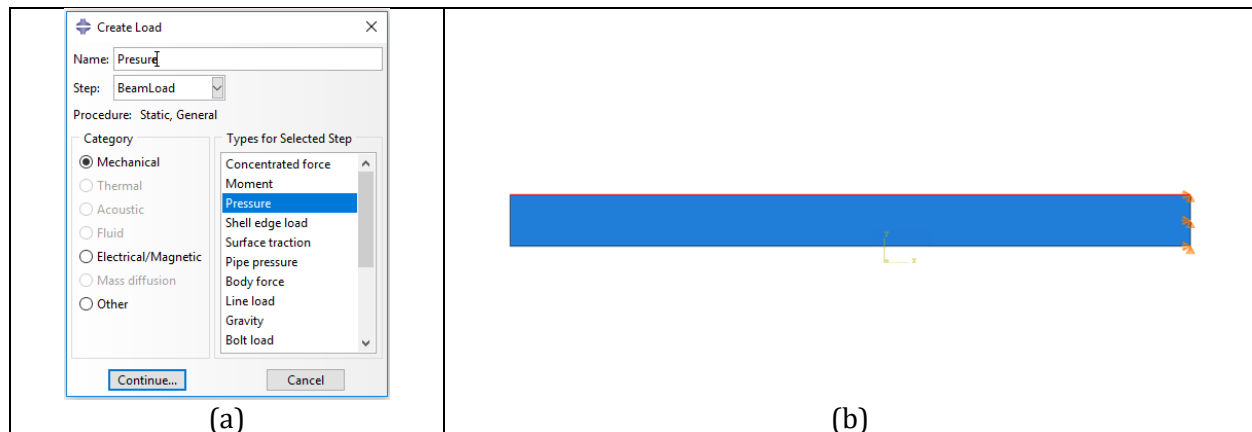

Figure 2-19 – (a) The Create Load dialog box and (b) the prompt area.
1. In the **Model Tree**, double-click **Loads** to create a new load in the model **BEAM**. The **Create Load** dialog box appears, Figure 2-19(a).
3. In the viewport, select the top edge of the beam as the surface to which the load will be applied. The desired edge is highlighted in Figure 2-19(b). Check the **BeamCreate Surface** and name it **BeamLoad**. Click **Done** in the prompt area to indicate that you have finished selecting regions.